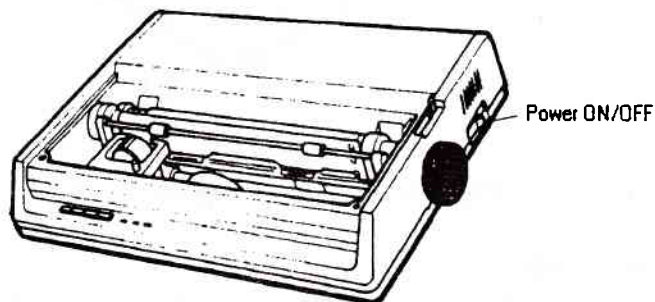

Figure 21, Power ON/OFF switch
Normally the power supply is controlled by the MCS2000SL. If you are loading paper you can switch off the power for the printer separately with the power ON/OFF switch. (see figure 21).
2. Set the POWER switch to OFF. (see figure 21) (the platen turns smooth when the power is off).